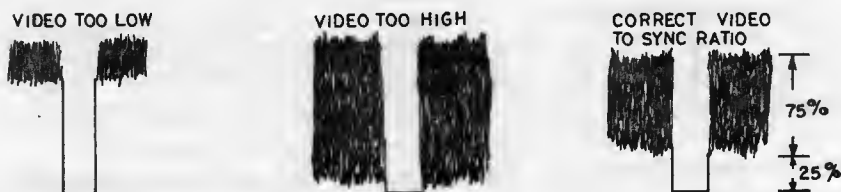

Fig. 5
11. At this point you can further adjust the lens iris and target voltage for the proper video level. See fig. 5.